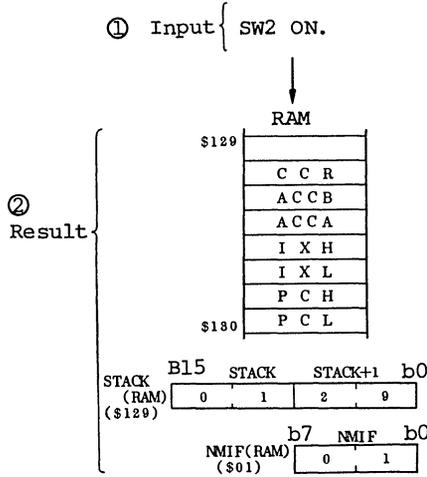

Figure 14-6. Example of LWPST Execution
- b. Example of LWPST execution is shown in figure 14-6. Contents of CPU registers, before NMI interrupt by switch 2 input, are saved and LWPST is executed. Value of stack pointer is saved in STACK(RAM) and \$01 is stored in NMIF(RAM).